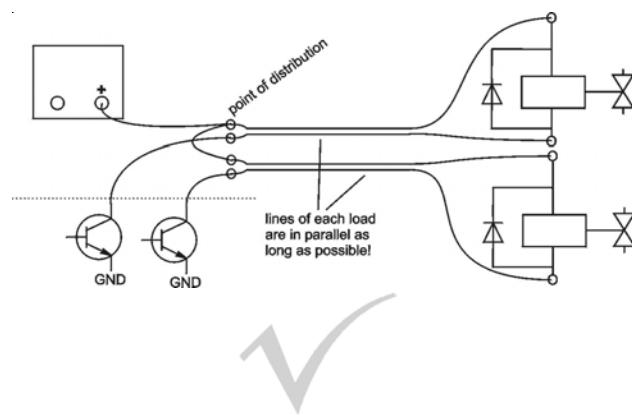

Fig. 5-27: Running Supply Lines "Parallel"
- It's better** to apply „parallel“ wiring at which each single load is supplied by a separate connection starting from a distribution point: Both „+“ and „-“ wire of any load are run together, starting at the point of distribution and ending at the load (see fig. 5-27). The effect of minimizing disturbances is intensified when using two-wire drilled cables.